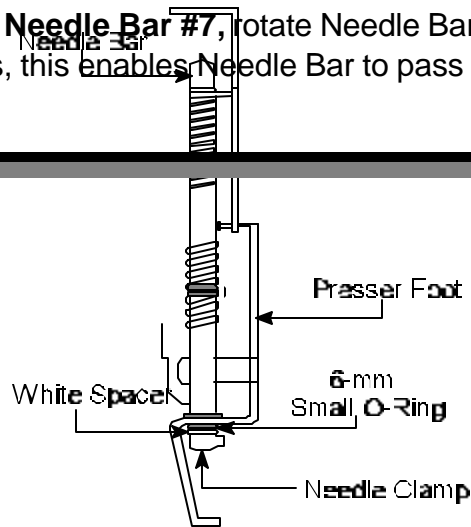

Figure 9
14. Hold **Figure 7** Needle Bar and Presser Foot together and **remove** needle clamp, white spacer and 6 mm O-ring. See *Figure 9*.